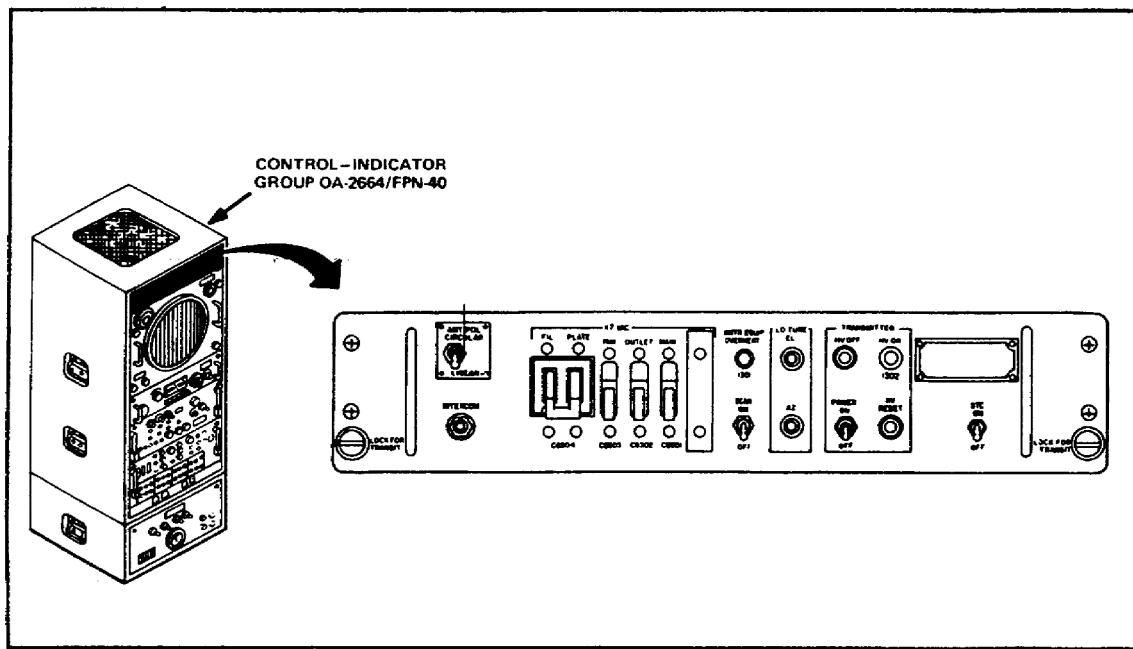

Figure 32. Control-indicator group, panel, power distribution SB-1116/FPN-40.
i. Locate SCAN switch S305 on panel, power distribution SB-1116/FPN-40 on control indicator group OA-2664/FPN-40. (See Figure 32.)
- SCAN switch S305 (Figure 32)